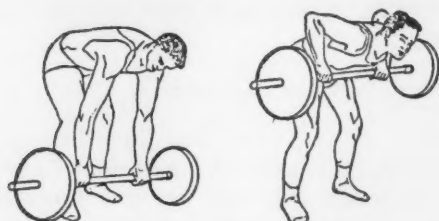

Fig. 5.
• **Bent Rowing** (upper back) (Fig. 5). Grasp the bar with palms back and hands slightly farther than shoulder-width apart. Your body is bent at the hips to form a right angle, and your knees are bent slightly. Keep your back flat. Pull the weight up until it touches your chest just below the nipple line. Do not jerk the weight up or lower the trunk to meet it. Now lower the weight until it's just above the floor and your arms are extended.